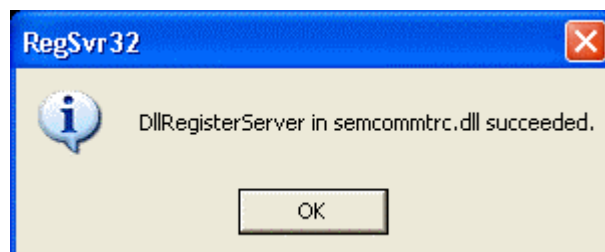

Fig. 6.3-5 RegSvr32 Window
5. Click on **OK** when a window as shown below appears (Fig. 6.3-5).